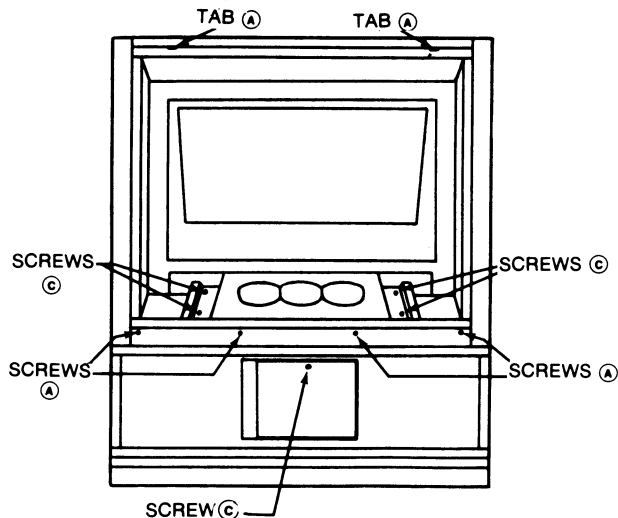

Fig. 1a - Cabinet Front View (Speaker Grille and Screen Removed) Models: 46GW950, P46100/150, P52150
1. Identify the two metal retaining tabs (A), located along the bottom edge of the cabinet top rail (see Fig. 1a).